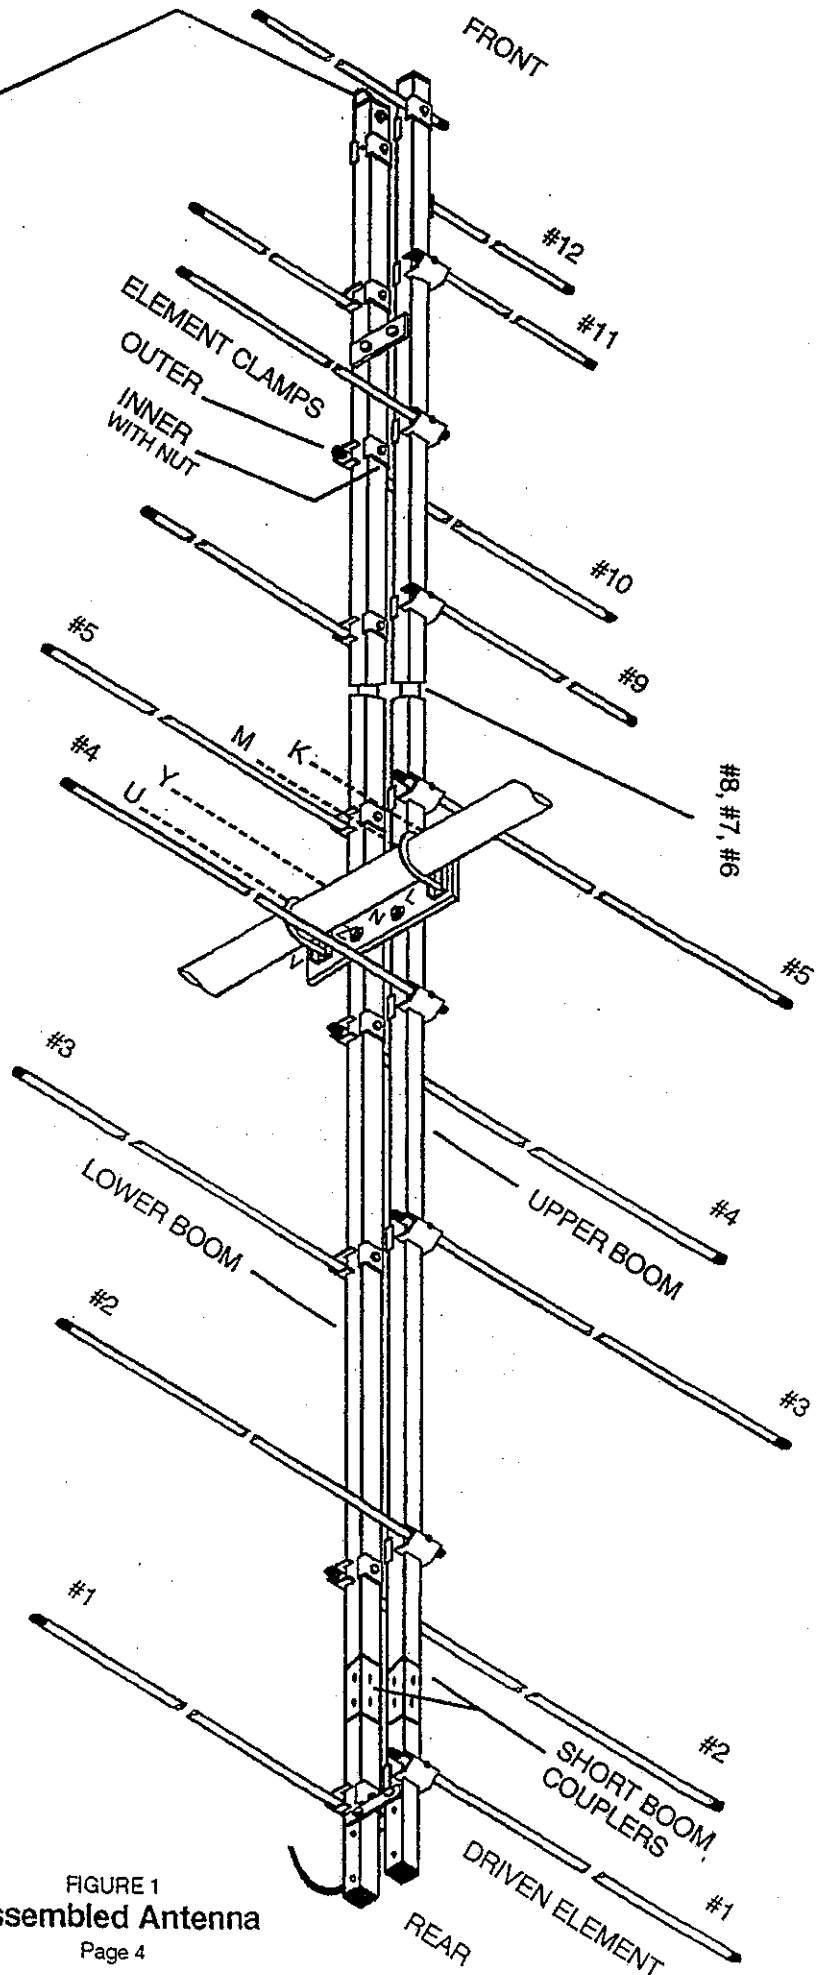

FIGURE 1
3. Insert the short boom couplers on to the rear of the boom. Using (4) 1/4-20 x 1-3/4" screws secure to the rear of the boom. The holes are provided. Tighten firmly but do not over-tighten. See Figure 1. NOTE: Make sure the RG/59U cable exit is on the bottom boom.
10. Secure each of the 22 elements with a pair of mounting clamps as shown in Figure #1. This hardware and (2) 8-32 x 1-3/4" and (22) 10-32 x 2-3/8" hex head bolts will be found in the plastic bag. Use the (2) 8-32 x 1-3/4" bolts for element #12 only.
11. Note: Element #12 is inserted from the side of the boom using mounting clamps found in the hardware bag, (see Fig. 1). This is the only element mounted this way.
12. When using the Cantilever Mount, remove the lower U-bolt and use the (2) 1/4-20 x 2" screws, nuts and washers to mount the cantilever boom. (See cantilever instructions).